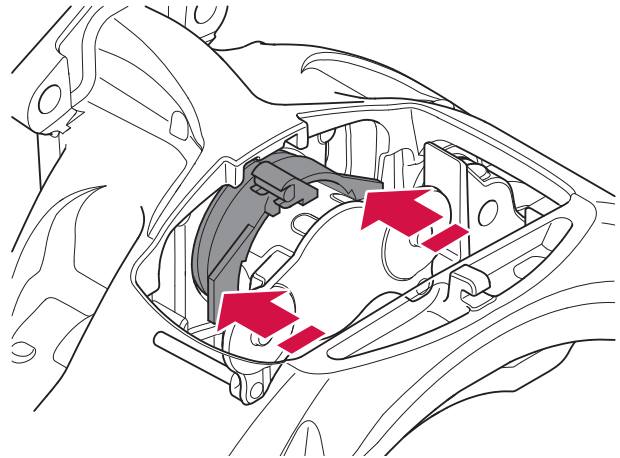

Figure 46. Pressing in the adjustment screw bellows
11. Assemble Haldex special tool P/N 95225 and P/N 95226, load the assembled special tools into the calliper end of the adjustment screw bellows. See figure 46.